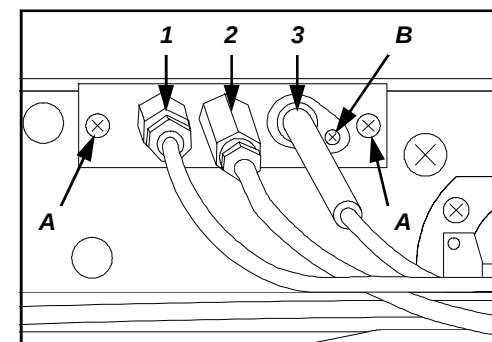

FIG.18 (REPLACEMENT DU THERMOCOUPLE, DE LA VEILLEUSE ET DE LA BOUGIE)
- DÉVISSER LA THERMOCOUPLE AVEC UNE CLEF FIXE SPÉCIALE (FIG.18-RÉF.1);
- DÉVISSER LES 2 VIS DU SUPPORT (FIG.18-RÉF.A);RÉMONTER LA NOUVELLE VEILLEUSE (FIG.18-RÉF.2) SELON LES PHASES SUSMENTIONNÉES;
- ENLEVER LA BOUGIE EN DEVISSANT LA VIS (FIG.18-RÉF.B);
- RÉMONTER LA NOUVELLE BOUGIE (FIG.18-RÉF.3) SELON LES PHASES SUSMENTIONNÉES